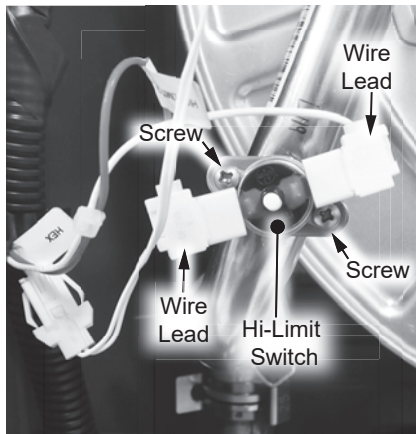

Figure 197 - Disconnect and remove hi-limit switch from HEX outlet tube
- 23** Locate the hi-limit switch installed to the HEX outlet tube as shown in Figure 197. Disconnect the two (2) wire leads from the hi-limit switch (labeled "HI LIMIT 2"). Remove the two (2) screws securing hi-limit switch to HEX outlet tube. Remove hi-limit switch and place aside with the two (2) screws in a safe place for reinstallation.